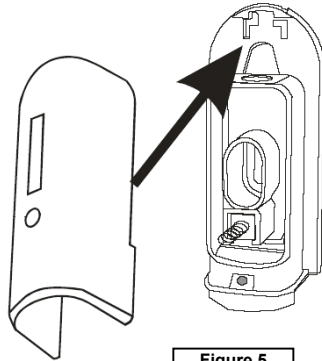

Figure 5
- Close and fasten the cover with the specific screw (see figure 5).